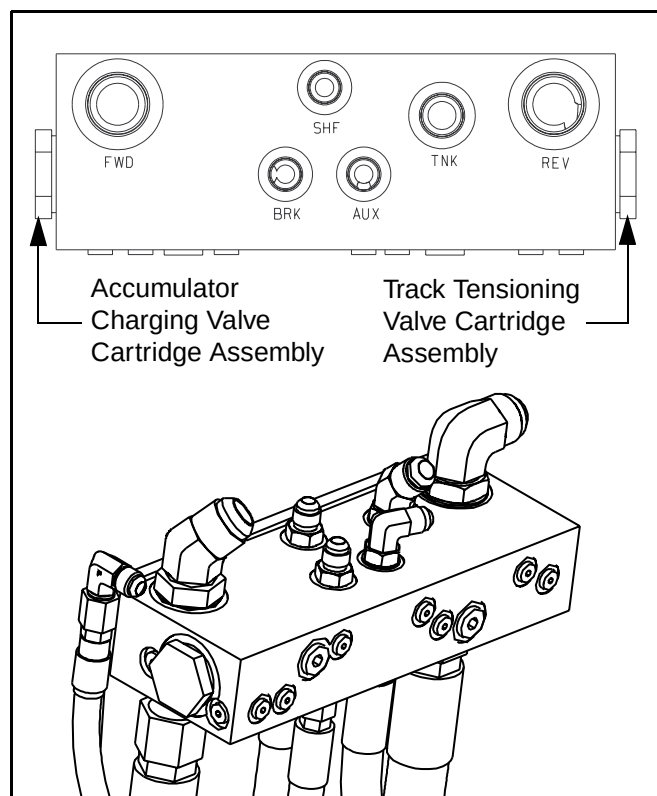

Figure 5 - 46 Track Take-up Valve
- 13) If you cannot feel it pulse, remove the accumulator charging cartridge assembly (Figure 5 - 46), inspect, clean, and re-install in valve body.